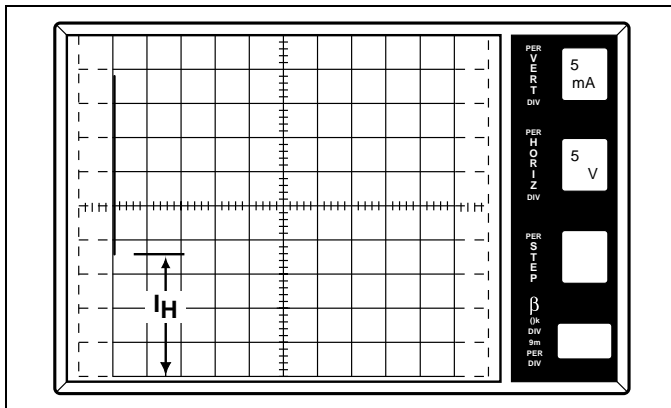

Figure 19.19  $I_{H(Forward)}$  is equal to 18mA
- Decrease *Variable Collector Supply Voltage* to the point where the line on the CRT changes to a dot. The position of the beginning point of the line, just before the line changes to a dot, represents the  $I_H$  value (See Figure 19.19.)